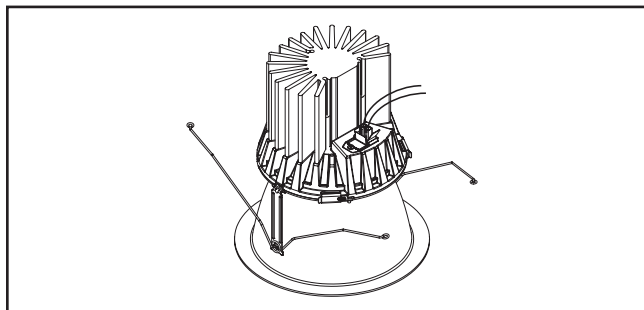

Figure 12.
4. Plug in the luminaire quick disconnect on the module. (Figure 12.)